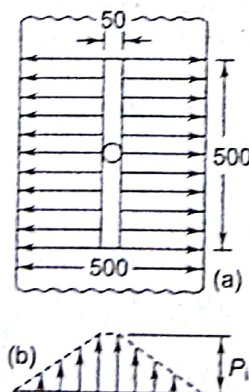

Fig. 16.35
- 16.2 ③ The developed view of a hydrostatic bearing is shown in Fig. 16.35 (a). Consider the flow in the direction shown by arrows and neglect the flow in the other direction and over corners. The pressure distribution is linear as shown in Fig. 16.35 (b). The thrust load is 500 kN and the film thickness is 0.2 mm. The viscosity of the lubricant is 500 cP. Calculate the supply pressure and flow requirement. [LO 3]